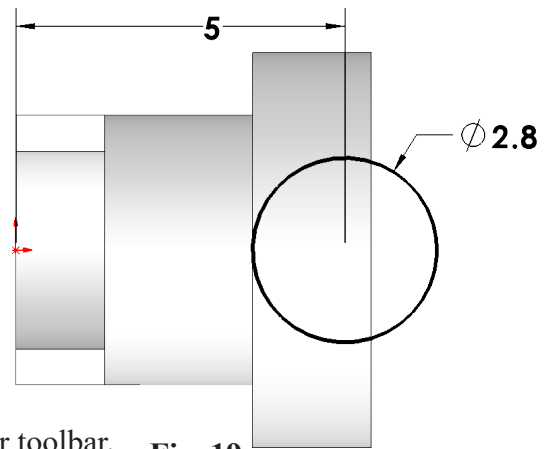

Fig. 19
Step 7. Click **Smart Dimension**  (S) on the Sketch toolbar.
Step 8. Add dimensions, **Fig. 19**.